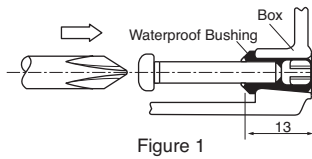

Figure 1
1. Insert M4 screws into the waterproof bushings at all four corners inside the box. Push the screws with a screwdriver and penetrate the bushings (Figure 1).